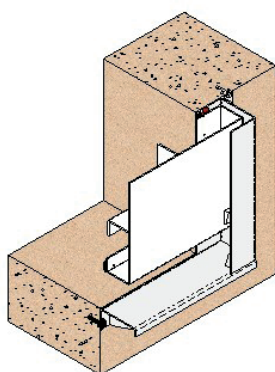

**Fig. 15**
- In order to install the penstock using chemical or expansion anchors (fig. 15), position it in the channel, also taking care to ensure that the gate seal is downstream. Using the holes of the body of the penstock as a guide, make the boreholes in the channel for the chemical or expansion anchors. Remove the penstock and apply sealing paste such as SIKAFLEX-11FC or similar in order to prevent leakages between the body and the channel. Return the penstock to its location and screw down using the chemical or expansion anchors. Take care to screw crosswise and without excessive force, in order to ensure the penstock does not become deformed.